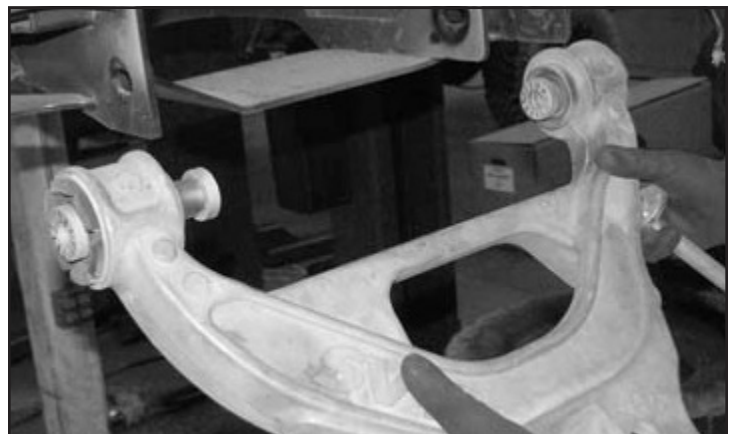

FIGURE 3 - STEP 11
11. Remove the lower control arm bolts from the frame pivots and remove the lower control arm from the truck. Save hardware and lower control arm. **SEE FIGURE 3**